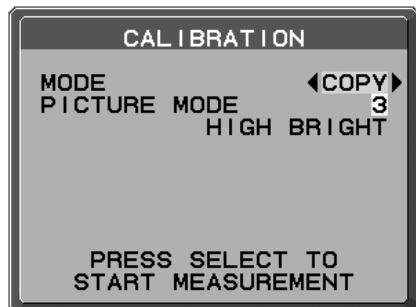

Figure C.4
6. Using “LEFT” or “RIGHT” of Display B, select COPY in the MODE selection (**Figure C.4**).